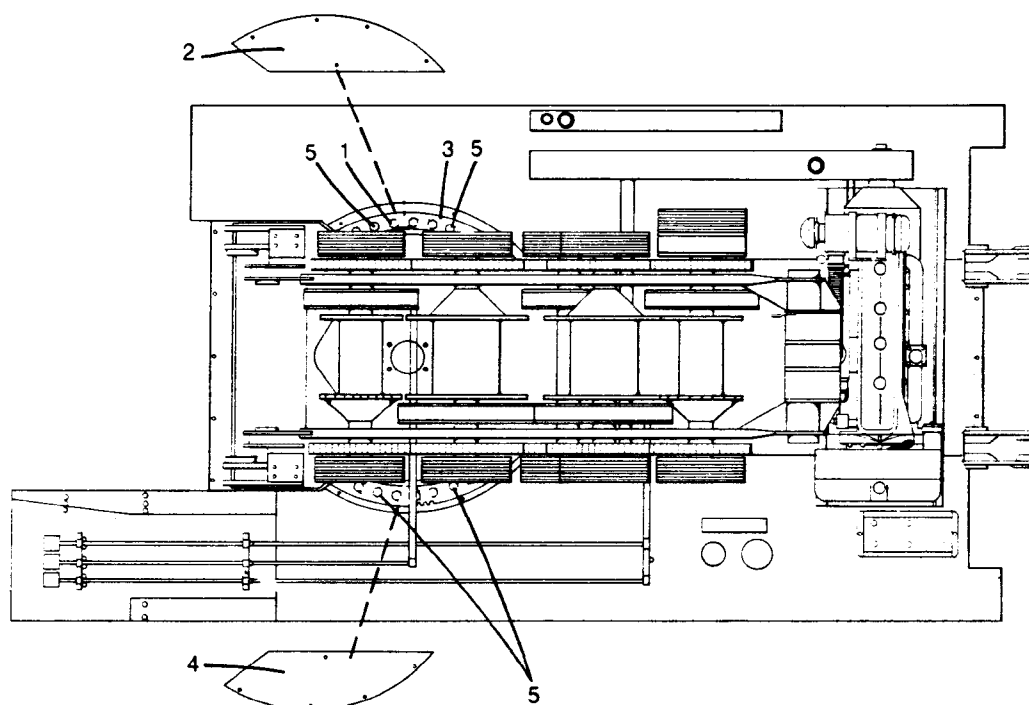

Fig. 2
- (c) Remove bearing cover plates from both sides of the revolving frame to expose the bearing. (Item 2 and 5, Fig. 2.)
- (d) Install four positioning studs (6 in Fig. 2), in the tapped holes in the carrier frame or mounting base.